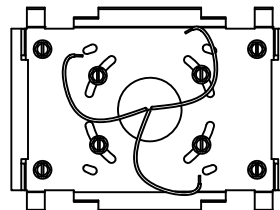

FIGURE. 5
6. IF JUNCTION BOX IS RECESSED INTO WALL (FLUSH WITH WALL SURFACE), MARK 4 LARGE HOLES ONTO WALL. SECURE PLATE TO WALL WITH SUITABLE FASTENERS AND ANCHORS. SEE FIGURE 5. WARNING: DO NOT RELY ON JUNCTION BOX SCREWS ALONE TO SECURE MOUNTING PLATE TO WALL! PROCEED TO STEP 8.